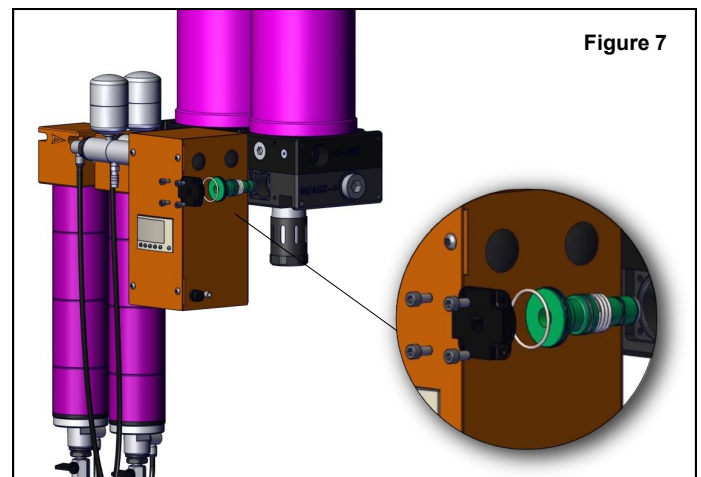

Figure 7
2. Using a 4mm hex key wrench, remove the four socket head cap screws holding the piston cover in place. *Figure 7*
4. Using a finger or a 1/2-13 bolt, remove the piston from the piston bore. Be sure to remove the piston spring. *Figure 7*